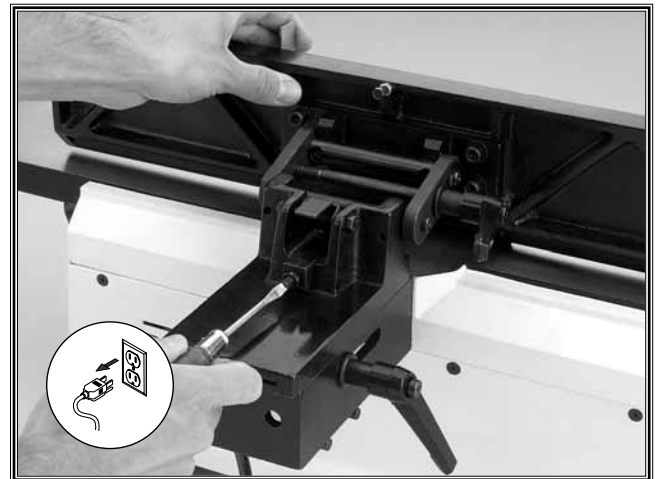

Figure 22. Adjusting the 90° stop slide.
4. Using a flat-head screwdriver, adjust the setscrew on the 90° stop slide until the peg makes contact with the back of the fence (Figure 22).